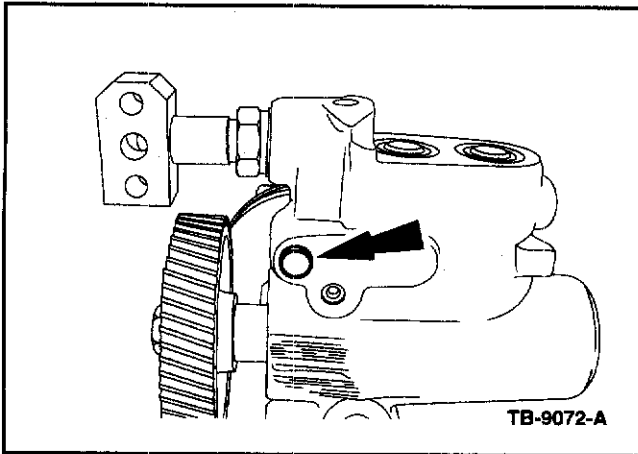

Figure 6 - Article 08-9-9
4. Remove the dowel pin. (Figure 6)